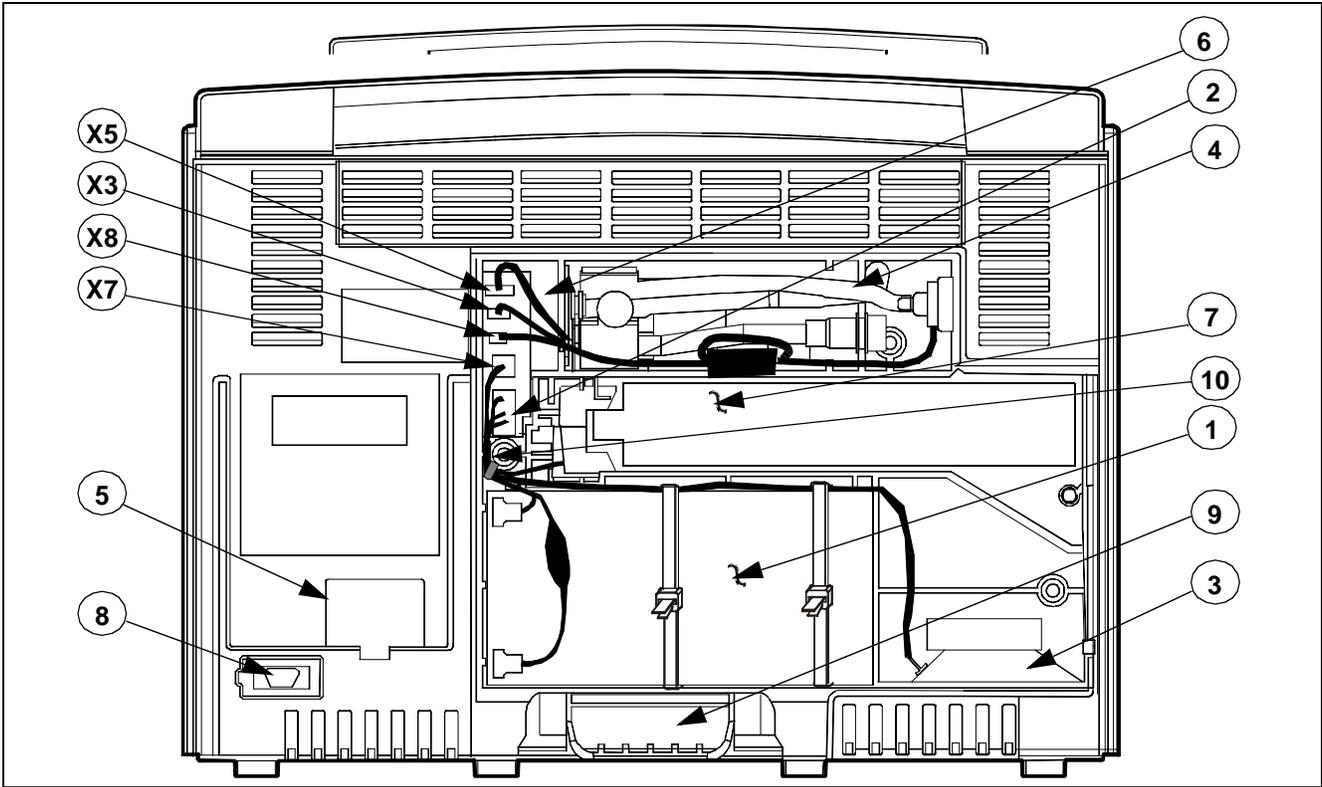

Figure 3-1 SC 7000 and SC 9000XL Rear View w/ Cover Removed
The external battery (⑦ in Figure 3-1) and main battery (① in Figures 3-1 and 3-2) are contained in compartments on the rear of the monitor. It is necessary to remove the back cover (⑥) only to replace the main battery.
The main battery (1 in Figures 3-1 and 3-2) is in a compartment below the external battery compartment behind the rear cover (6 in Figure 3-2). Use the following procedure to remove the main battery.
- 5) Using long-nose pliers, unplug speaker connector from X7 (see Figure 3-1 on page 40) and power cable connector (2 in Figure 3-1 and in Figure 3-2) from Connector I/O PCB in connector cavity (6 in Figure 3-1), and remove power cable subassembly.
Sandwich wires of power cable and speaker subassembly between left side of housing and flat plastic cable guide (10 in Figure 3-1 on page 40) to prevent possible damage to harness when installing rear housing screws.
The NP subassembly, ④ in Figures 3-1 and 3-2, is housed in a compartment above the external battery on the back of the monitor. Use the following procedure to replace filters and/or the NP subassembly.
- 4) Refer to Figure 3-1 on page 40. Using long-nosed pliers, unplug NP subassembly cable connectors from X3 and X5 in connector cavity (⑥).